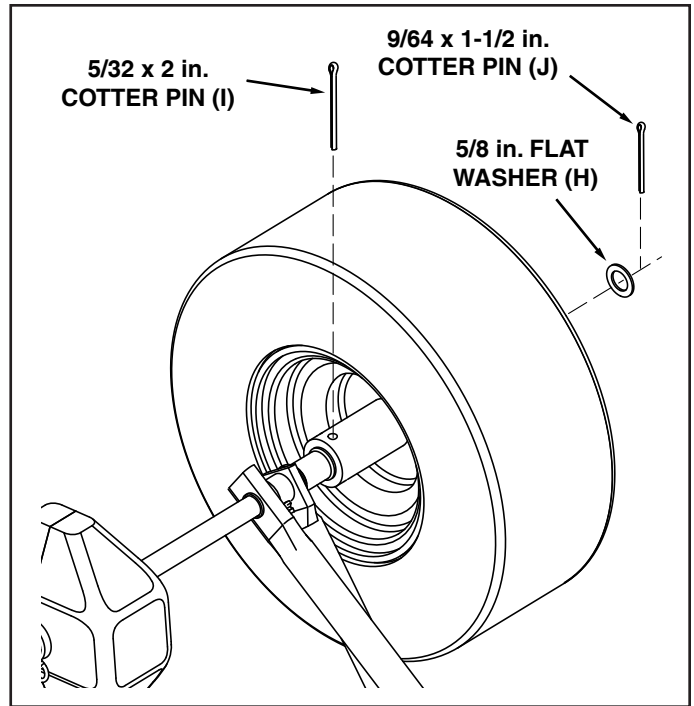

FIGURE 2
3. Place a wheel onto each end of the axle. The long end of the hub goes to the inside. See figure 2.
4. Assemble a 5/32 x 2 in. cotter pin through the hole in one wheel hub and the axle. See figure 2.
5. Place a 5/8 in. flat washer onto each end of the axle and secure with a 9/64 x 1-1/2 in. cotter pin. See figure 2.